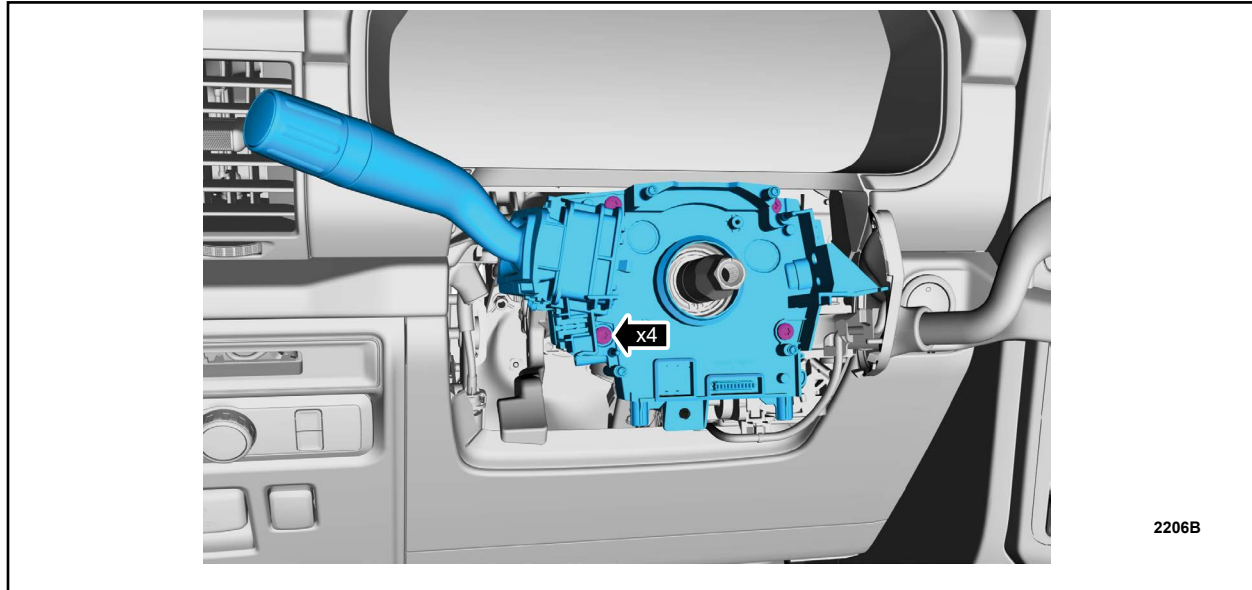

FIGURE 14
7. Remove the retainers and the SCCM. See Figure 14.